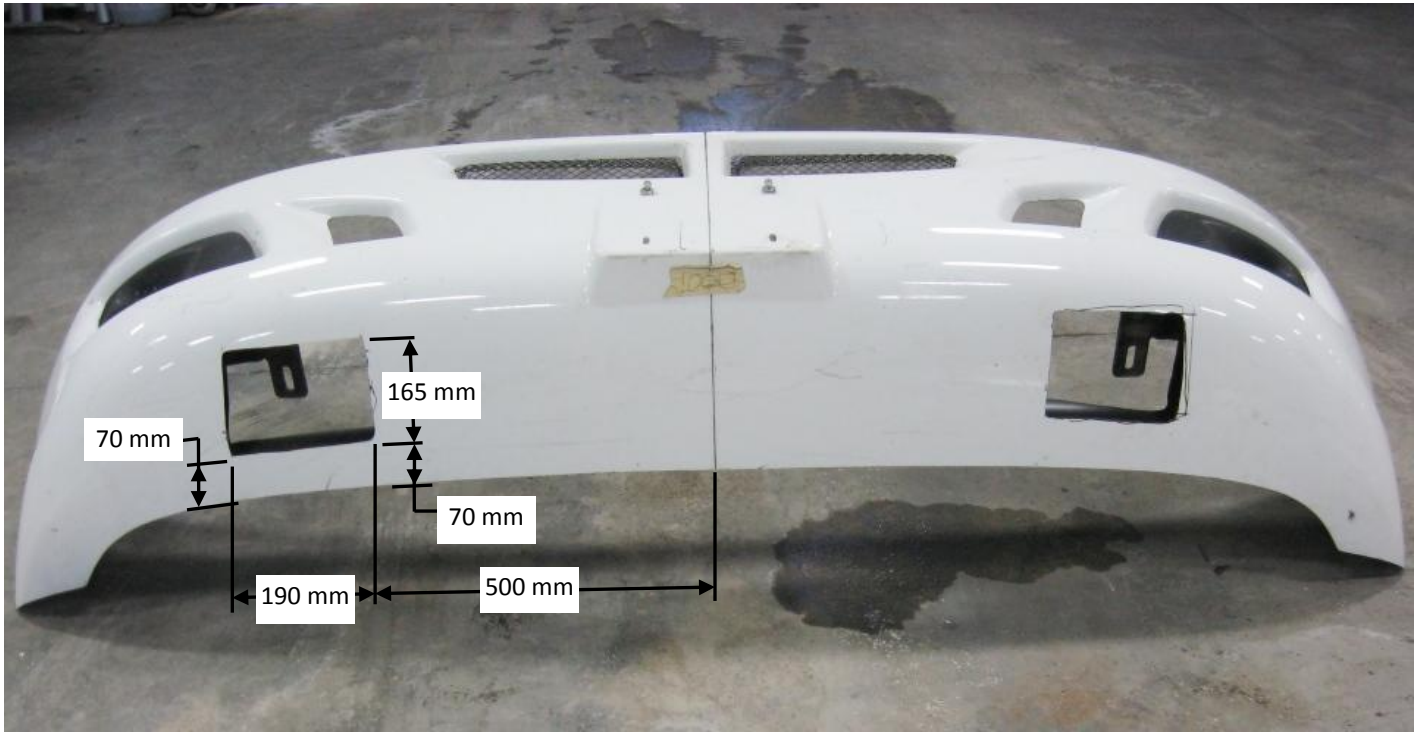

Figure 4 – Factory bumper cut outs
3. In order to install BFG sub mounts, cut two rectangular holes in the factory bumper according to the dimensions shown in Figure 4.